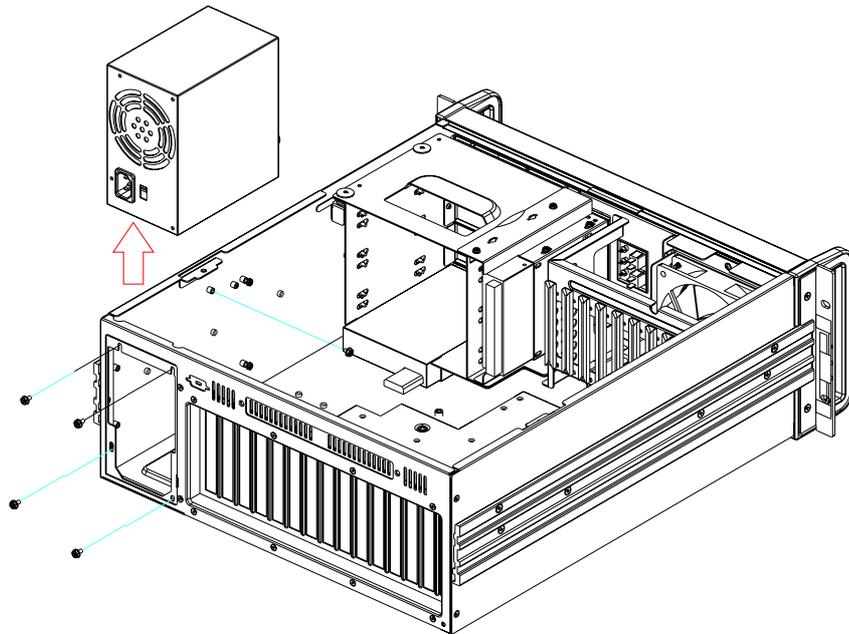

Figure 3.10 Replacing the single power supply
4. Loosen the six screws on the power supply bracket and then gently pull it up (see Figure 3.10).